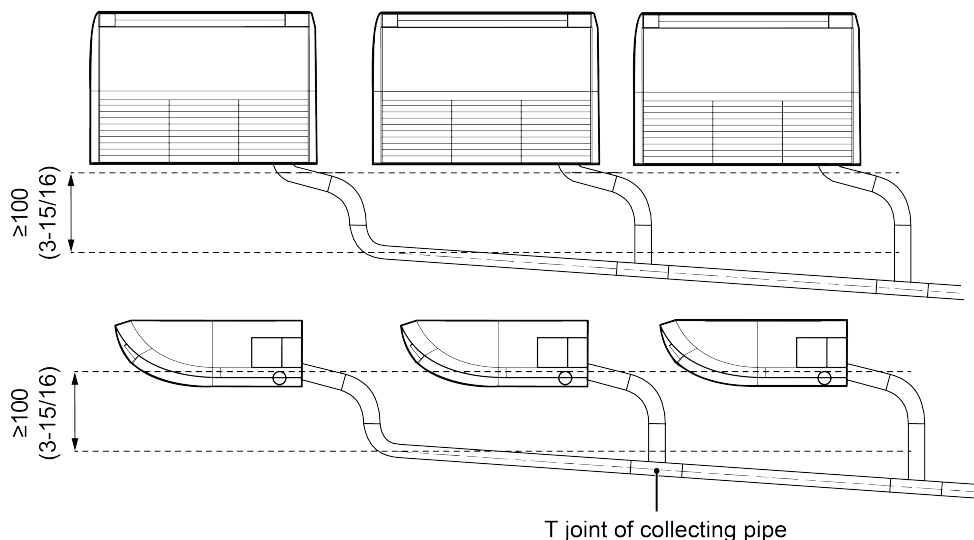

Fig.4.3.2.1
- (1) Drainage pipe should have the same diameter or larger diameter than the connection pipes (PVC pipe, outside diameter 17mm (11/16 inch), thickness \geq 1.75mm (1/16 inch)).
- (2) Keep drainage pipe short and sloping downwards at a gradient of at least 1% for preventing forming air bubbles.
- (3) Insert the drainage hose into drain socket, tighten the metal clamp securely.
- (4) Warp the sealing pad over drain hose and metal clamp for heat insulation.
- (5) Make sure to perform insulation work for all drainage piping in order to prevent any possible water drop due to dew condensation.
- (6) Apply the suitable diameter for converging drainage pipe according to the operating capacity of the unit, as shown in Fig.4.3.2.1.